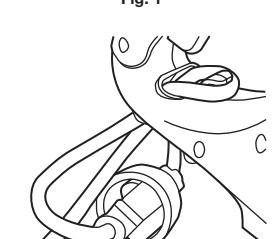

Fig. 2
- Make a narrow loop with the extension cord and push the loop through the cord hole in the rear handle (Fig. 2).
- Move the loop over and onto the cord hook and pull the cord gently to secure the loop into the hook (Fig. 2). This helps prevent accidental disconnection.
- Remove the loop in the extension cord from the cord hook (Fig. 2).